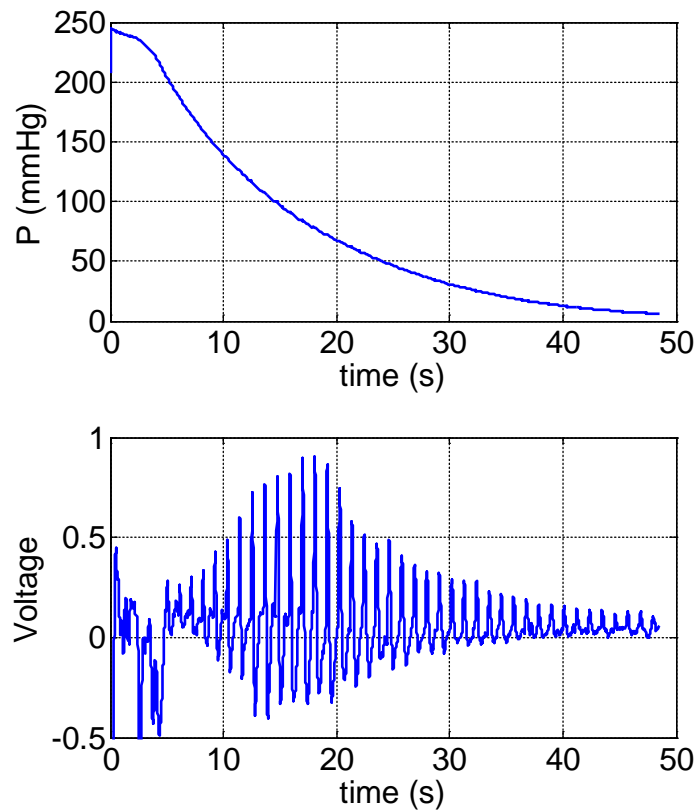

Figure 2: Raw pressure signal and processed signal. The oscillations in the lower figure are due to the patient's pulse.
If we process the pressure signal to remove the slow decay (a high pass filter), clean up the noise (a low pass filter), and amplify, we can obtain a result as seen in Figure 2. In Figure 2, the upper signal shows the raw pressure signal while the lower signal shows the processed signal which isolates the pulse. The pulse amplitude grows as the cuff pressure releases, then the pulse amplitude decreases. It is the time when the pulse amplitude is a maximum that we call that pressure the mean blood pressure. The figure shown in Figure 2 is what you will feel, your pulse intensifies and then decays.
Your task is to design and build a circuit capable of finding your mean blood pressure as in Figure 2. Conceptually, your circuit should have the following elements:
- Data for the final BP measurement. Your version of figure 2.